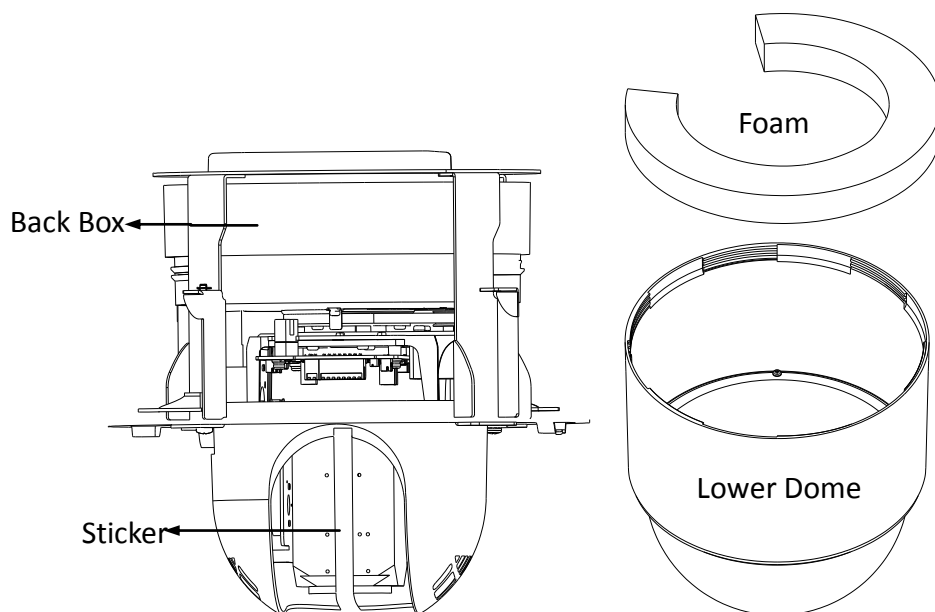

Figure 2-17 Remove the Protective Accessory
1. Rotate the lower dome counterclockwise to separate it from the back box as shown in Figure 2-17.
1. Rotate the lower dome counterclockwise to separate it from the back box. Refer to the Figure 2-17.